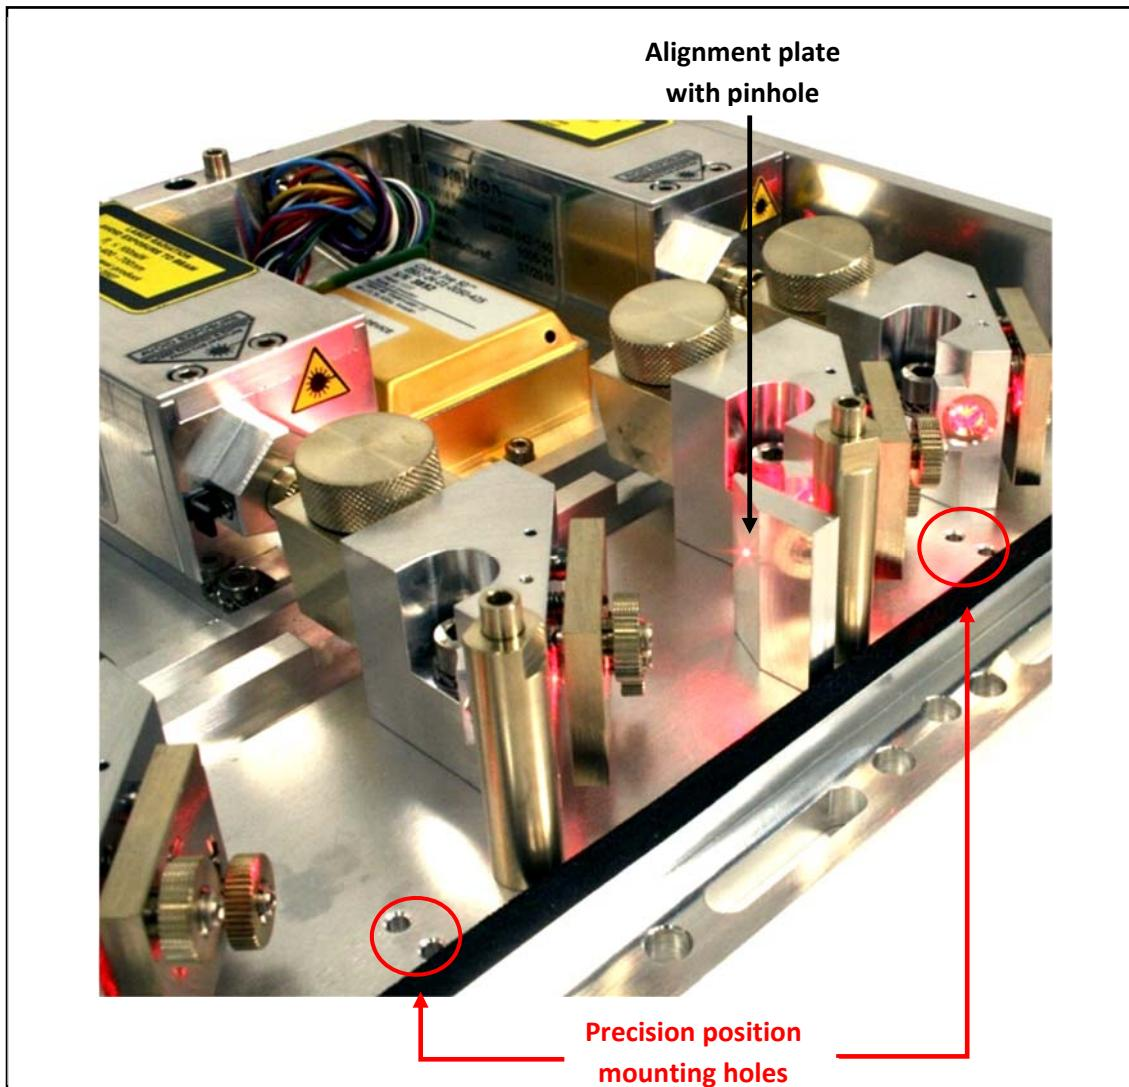

Figure 15: Adjusting the beam shifter for LightHUB® with alignment plates
2. For an easier adjustment procedure, it is recommended to put in max. two additional alignment plates with a pinhole after each of the three accessible beam combiners (see Figure 15). The position of the pinholes is fixed by mounting holes (precision position).